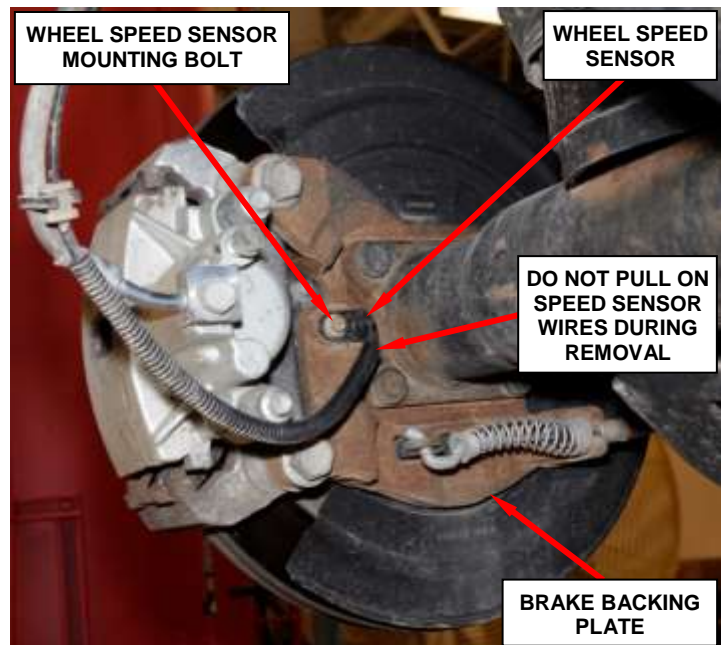

Figure 17 – Rear Wheel Speed Sensor
2. Remove and save the mounting bolt from the right rear and left rear wheel speed sensors (Figure 17).
33. Install the right and left side wheel speed sensor mounting bolts. Tighten the mounting bolts to 106 in. lbs. (12 N·m) (Figure 17).